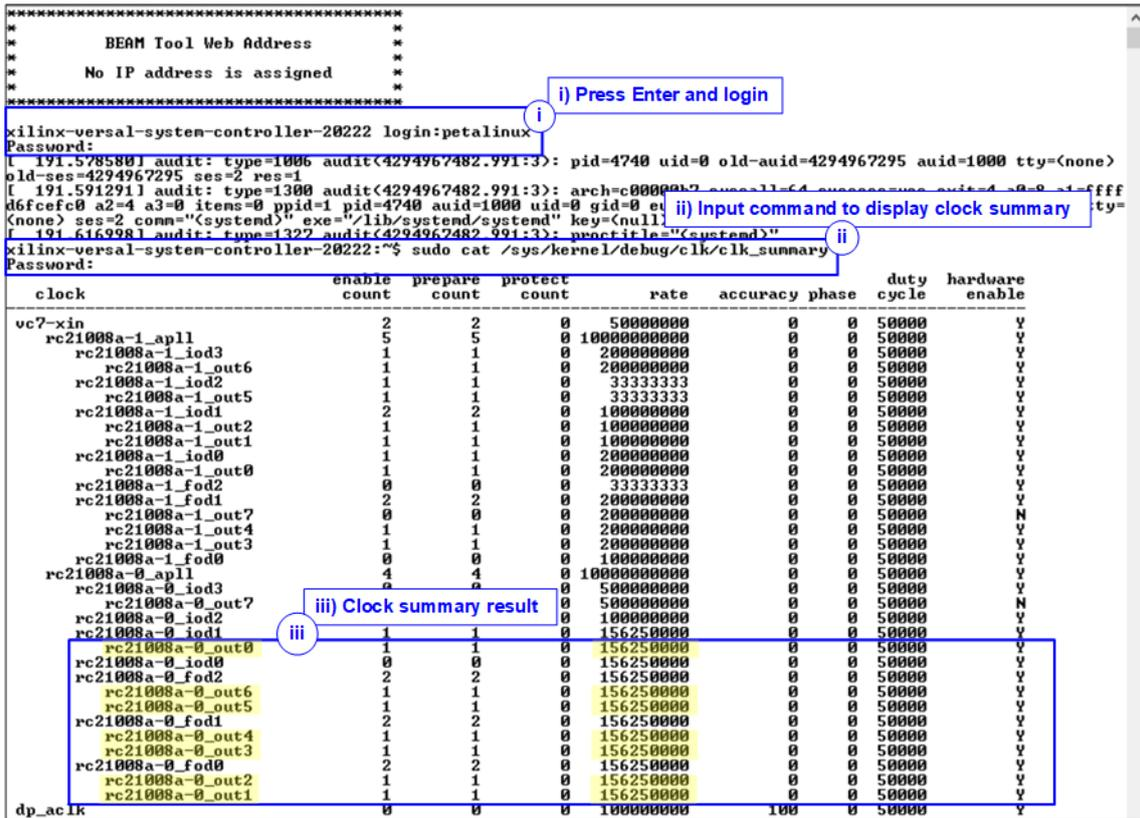

Figure 11 Current Clock Frequency of VHK158 Board
- iii) Verify that the clock frequency values for “rc21008a-0_out0-6” are set to 156.25 MHz, as shown in Figure 11.